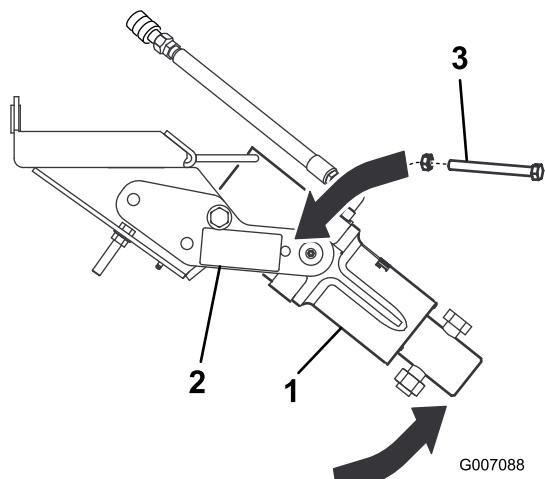

Figure 2
3. Manually rotate the auger drive head up, until you can slide a bolt (1/2 x 2-3/4 inches) into the hole in the cradle arm, securing the drive head. Lightly secure the bolt with a flange nut (1/2 inch) (Figure 2).